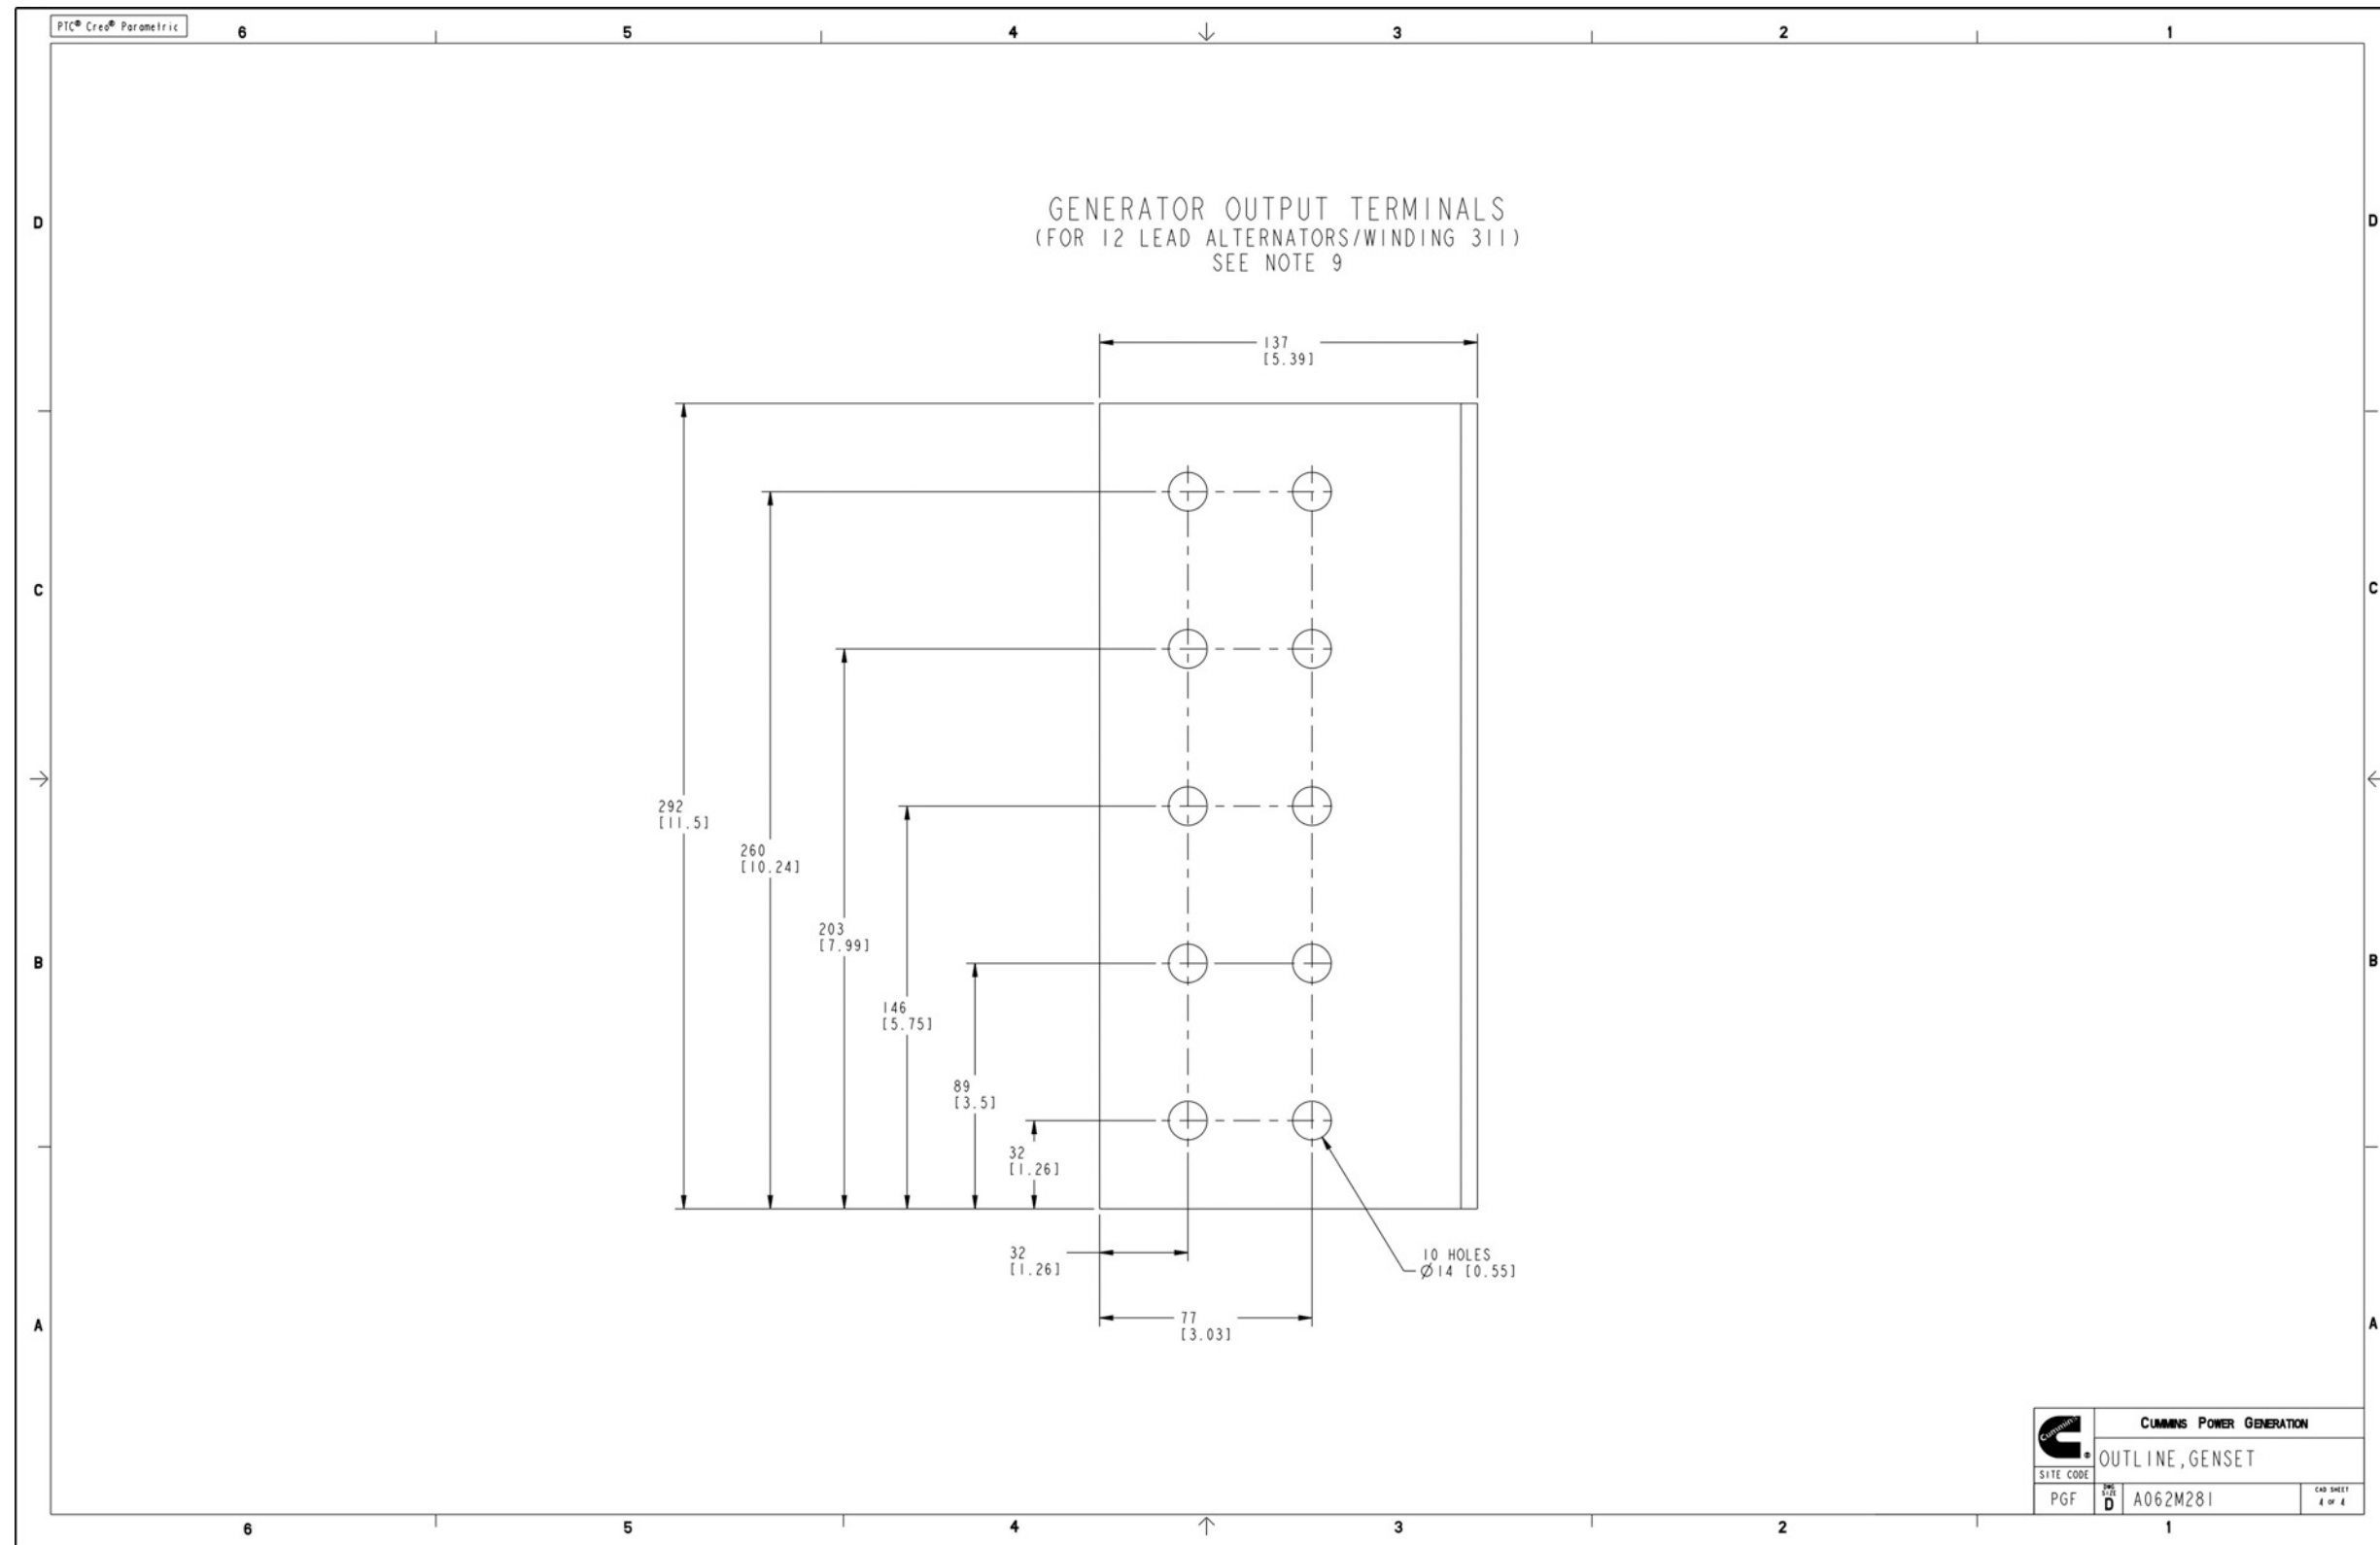

FIGURE 81. GENERATOR SET OUTLINE DRAWING (REMOTE RADIATOR) (SHEET 4)
- Figure 81. Generator Set Outline Drawing (Remote Radiator) (Sheet 4) 147